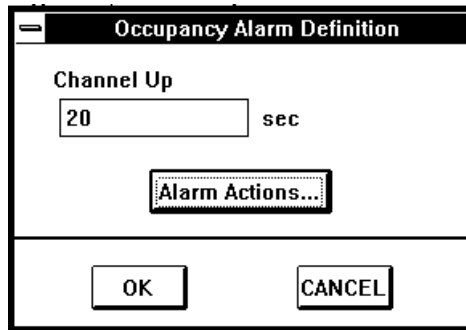

Figure 6-21: Typical Occupancy Alarm Definition Dialog Box
5. If alarm reporting is required then open the **Occupancy Alarm Definition** dialog box (Figure 6-21) by clicking on the **Define Alarms** button.